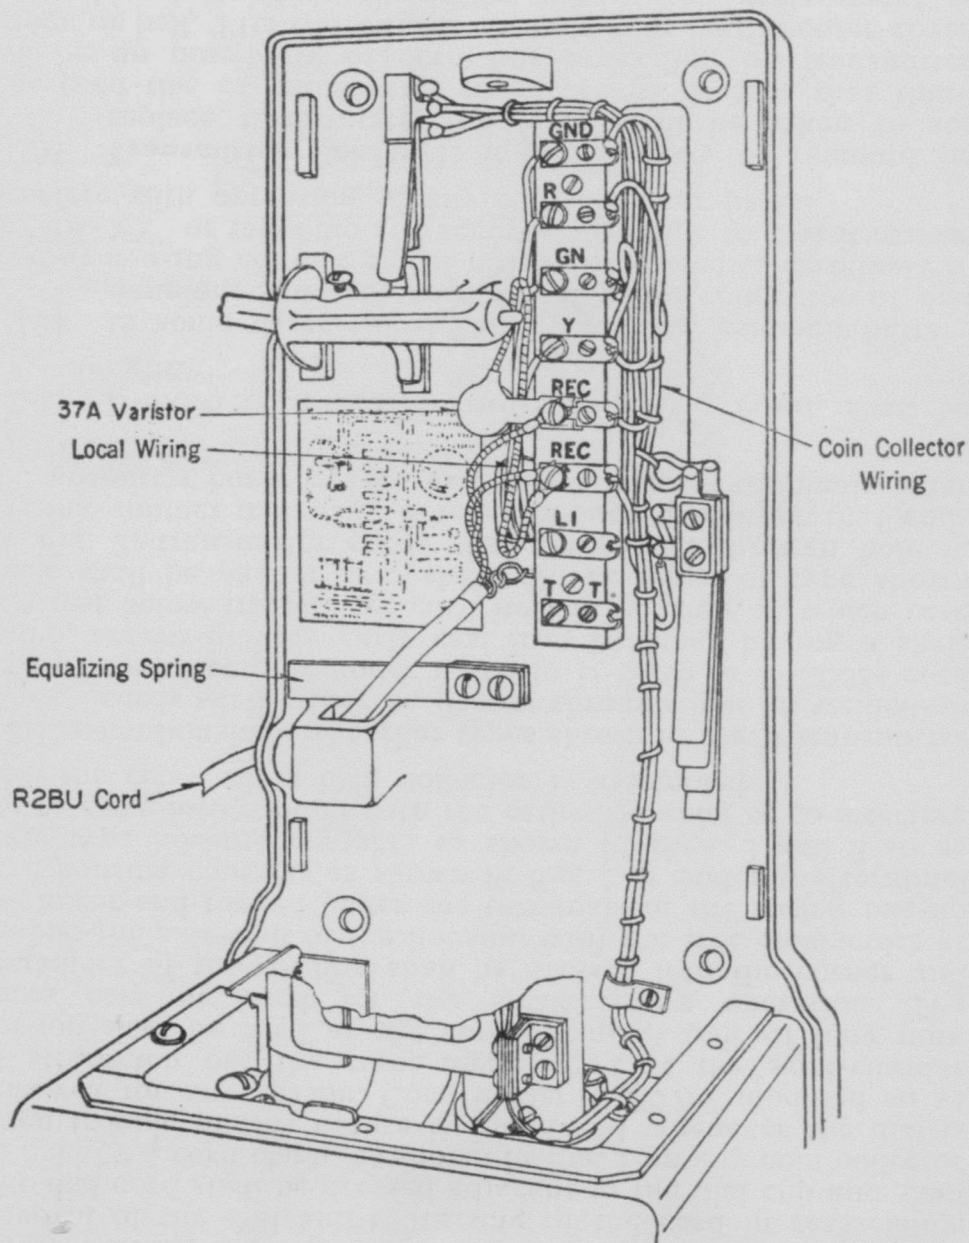

Fig. 4—50-Type Coin Collector
3.01 Figs. 4, 5 and 6 show R2BU receiver cord and Fig. 7 shows the R2DY cord. R2DW, R2EK and R2EL cords which also may be used should be anchored and arranged in same manner as above. The conductors shall be arranged in as nearly the same manner as possible to that shown.
3.03 When 37A varistor is installed into a 50-type coin collector with the cord anchor hook located near the center of connecting block, the cord anchor hook should be relocated to a position between the lower connecting block mounting screw and the terminal just above the mounting screw approximately as shown in Fig. 4. Cord anchor hook should not touch mounting screw.
3.04 When an L1 terminal is provided in the coin collector as shown in Figs. 4, 5 and 6, the line wires (Tip and Ring) should be connected directly to the coin collector instead of to the subscriber set and should be arranged in as nearly the same manner as practicable to that indicated in the above cording diagrams.
3.05 **Alarm switch connections**, when required, should be made through hole in base in coin receptacle compartment. When this hole is not provided the alarm wires should, if present, enter coin collector through standard opening for local wiring. They should be held under cable clamp shown in Figs. 4, 5 and 6 with wires to coin relay, and secured so as not to interfere with operation of any coin collector parts. (Wires not shown in figures.)